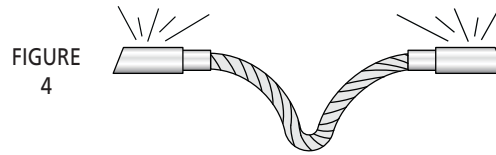

FIGURE 4
**CAUTION:** The bond terminals must have a bright surface. Failure to comply with this may result in a less than optimal weld. **See Figure 4.**